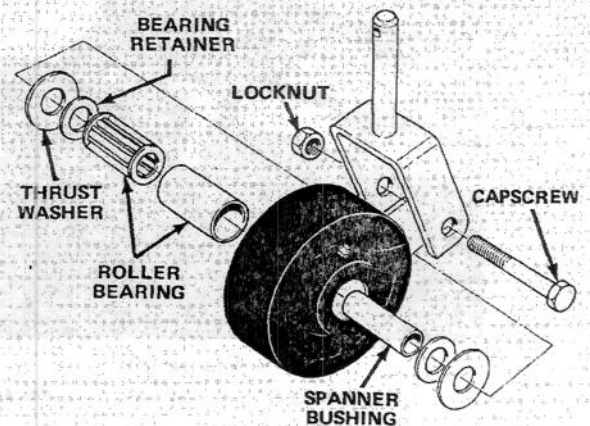

Figure 94
1. Remove locknut from capscrew holding castor wheel assembly between castor fork (Fig. 94). Grasp castor wheel and slide capscrew out of fork.
Note: Account for the two bearing retainers and thrust washers (Fig. 94).
2. Tip wheel to the side and allow roller bearing and spanner bushing to fall out (Fig. 94).
6. Pump more grease through grease fitting on castor wheel (Fig. 94) until bearing is greased thoroughly.